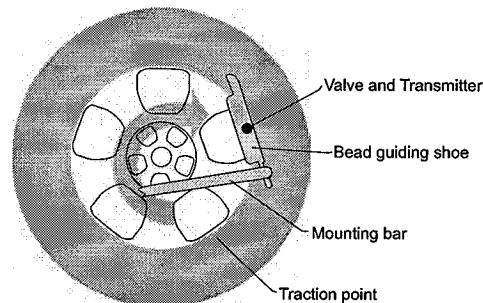

Fig.11
- When lifting the top bead over the rim flange, orient the wheel to place the transmitter at the center of the bead guiding shoe. Remove the top bead. Orient the wheel once more with the transmitter at the center the center of the bead-guiding shoe and remove the bottom bead. The transmitter should be checked for correct positioning and fit prior to tire replacement. (See Fig.11)